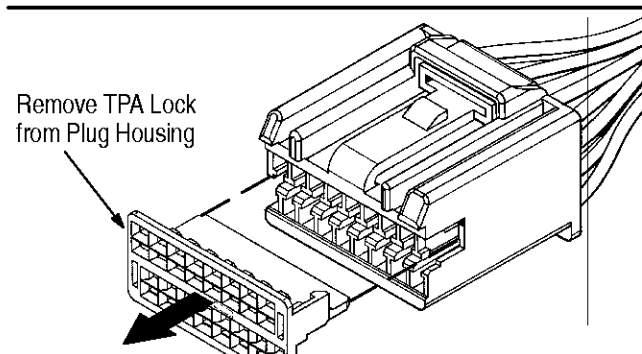

Figure 5
3. Remove TPA lock from the plug housing. Grasp the lock by the top and the bottom, and pull lightly until it is free from the plug housing, exposing the retention fingers. See Figure 5.